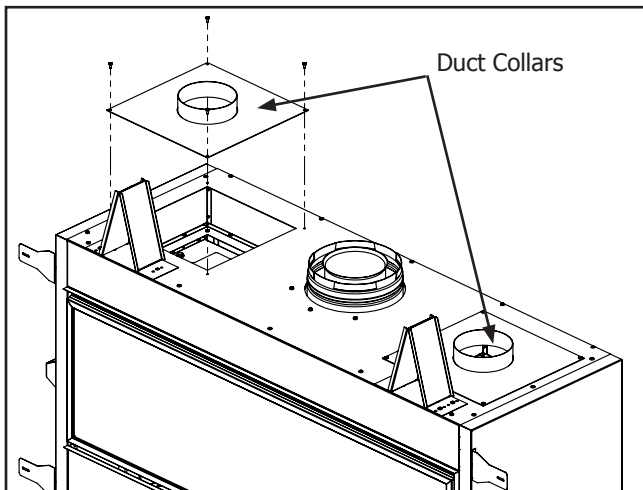

Figure 15. Duct Collars Installed
Step 2: Attach the supplied duct collars to the top of the cabinet as shown (Figure 15). Secure the collars by re-using the eight (8) screws saved in the previous step.